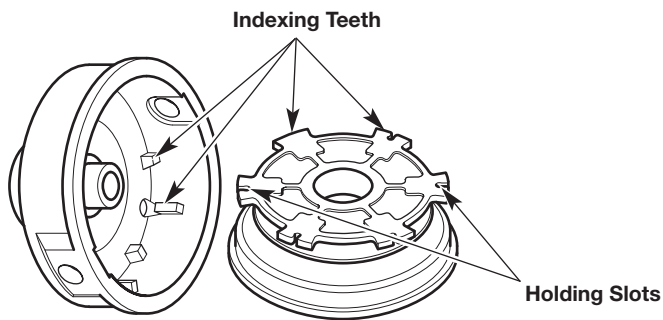

Fig. 19
- Check the indexing teeth and holding slots for wear (Fig. 19). If necessary, remove burrs or replace the inner reel and outer spool.